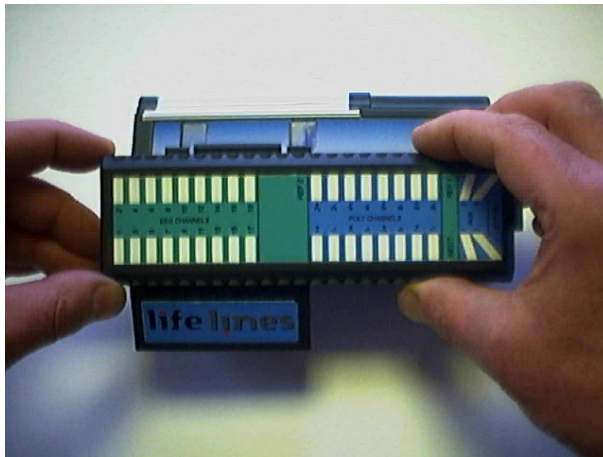

Figure 31 Lift the PCU away from the Trackit Mk3
- 5 Position the PCU above the Trackit Mk3 as shown above in Figure 31 and lower it down ensuring that the two tabs locate fully into the slots in the top of the Trackit Mk3.